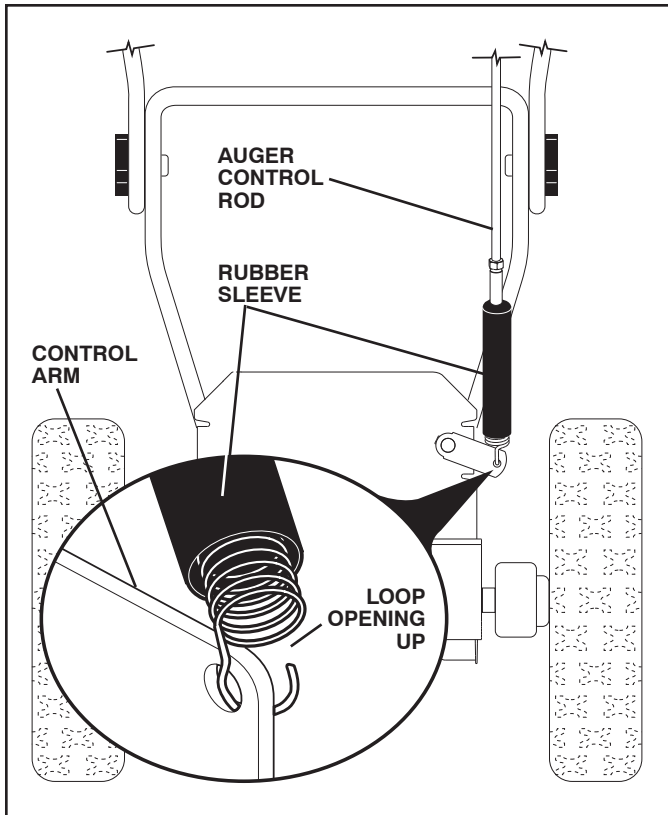

Fig. 5
INSTALL AUGER CONTROL ROD (See Figs. 5 and 6)
2. Hook end of spring into control arm with loop opening up as shown. (See Fig. 5)